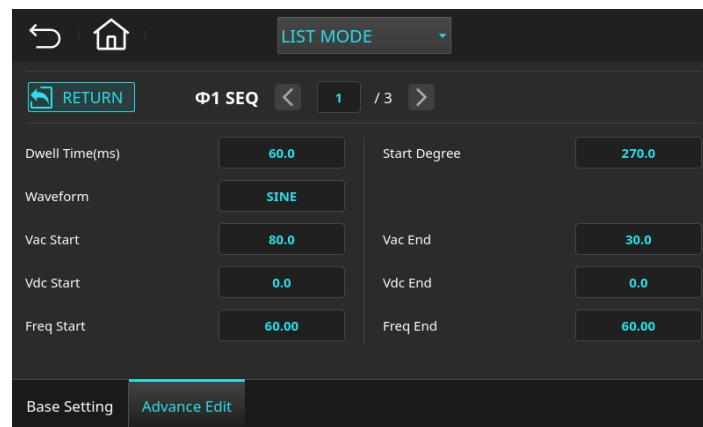

Figure 5-7 List Mode Setting Page (Example Parameters for Phase 1 – Sequence 1)
3. Select Φ1 SEQ1, tap the Edit button **EDIT**, and edit the parameters as shown in Figure 5-7.